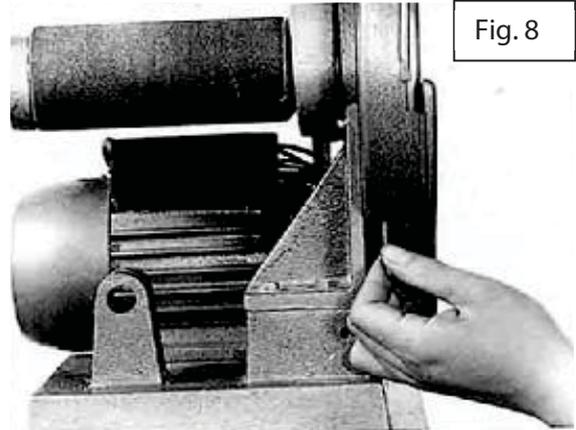

Fig. 8
3. Use the alien wrench as shown in Fig 8. insert the wrench in the rectangular window opened at the bottom of the disc cover. Loosen the set screw inside and take off the sanding disc. When you are going to put the disc back, remember that the set screw' must mount on the flatness side of the shaft and tighten.